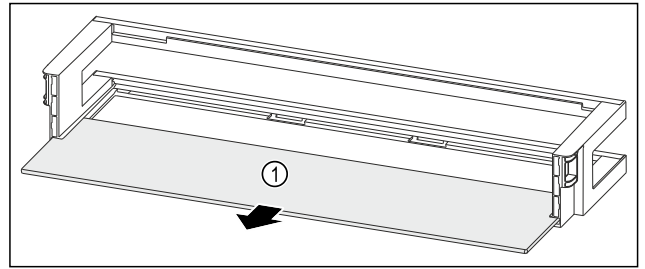

Fig. 201 Door rack with shelf
- Remove the shelf Fig. 201 (1).